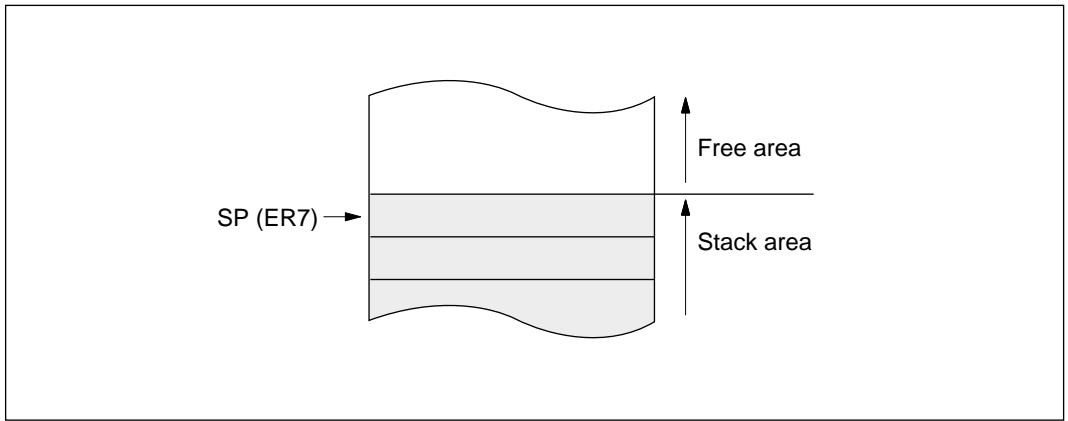

Figure 2-5 Stack
General register ER7 has the function of stack pointer (SP) in addition to its general-register function, and is used implicitly in exception handling and subroutine calls. Figure 2-5 shows the stack.